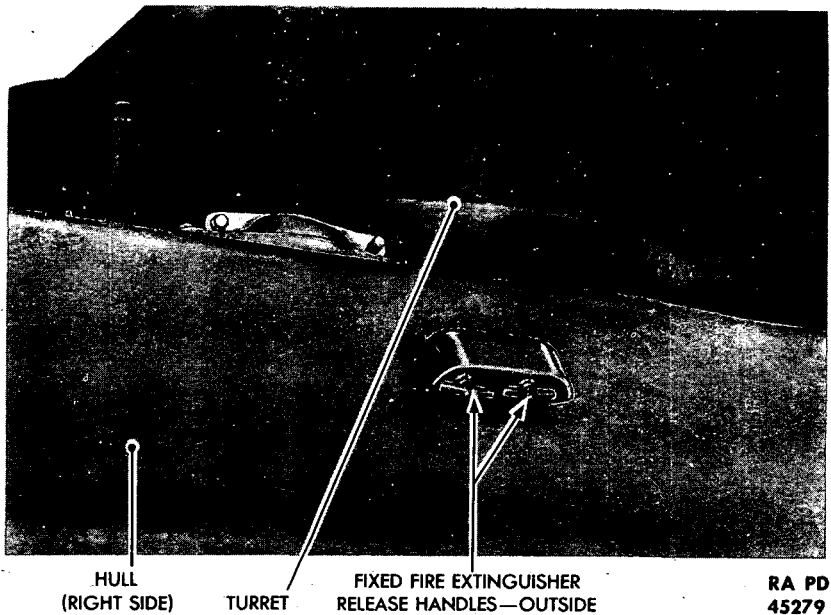

Figure 14—Location of Fixed Fire Extinguisher Outside Release Handles
(1) The fire extinguishing system is entirely manual in operation. It is imperative, therefore, that there be as little delay as possible in discharging the gas, as its effectiveness is greatly increased by catching the fire in the beginning.
(2) The system may be put into operation from the outside of the vehicle, or from within the driving compartment. Two fire extinguisher release handles are mounted inside the driving compartment on the right side of the hull directly behind the mount for the bow cal. .30 machine gun (fig. 13). The two fire extinguisher release handles are mounted outside the vehicle on the right side of the hull (fig. 14). To operate the system, merely pull out on the release handles. The further the handle is pulled out (within limits) the faster the gas will be released. Each handle operates to discharge 3 cylinders. Do not open second 3 cylinders except in emergency, and then only after the first 3 cylinders have been discharged. The purpose of the second 3 cylinders is to provide protec-